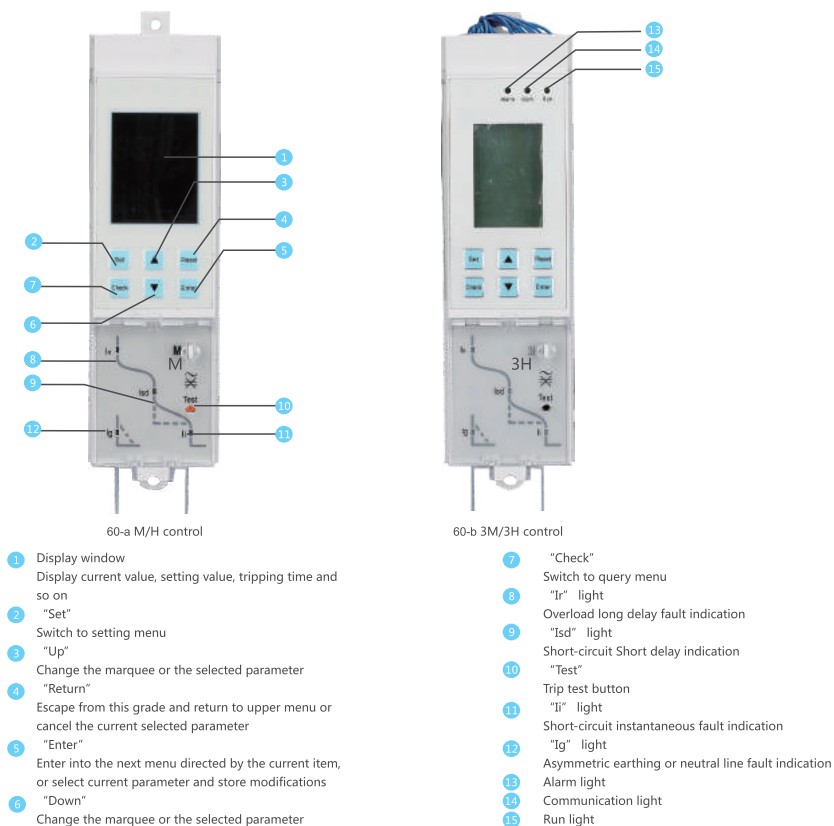

Figure 60. User interface of M / H and 3M / 3H intelligent controller
12.1.1 The user interface of M / H and 3M / 3H intelligent controller is shown in Figure 60